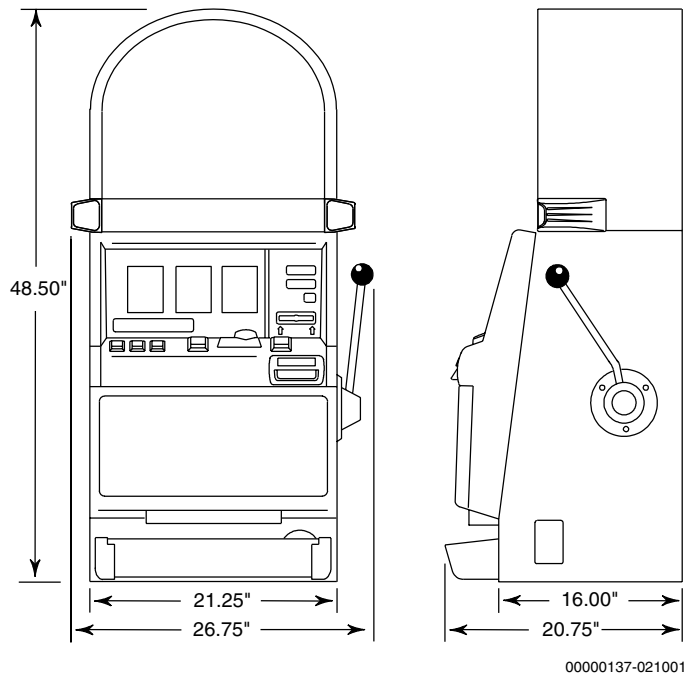

Figure 3-10. Cabinet Dimensions – S2000 Series Upright with Round Top Box
- Cabinet Dimensions – Figures 3-10, 3-11 and 3-12